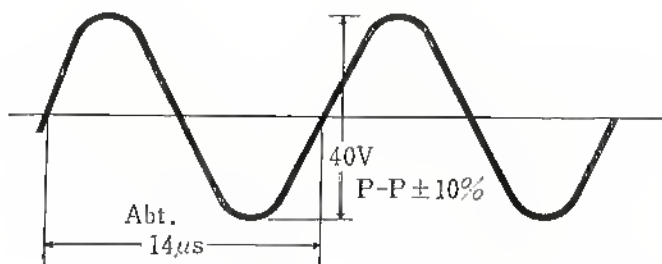

Fig. 53 Wave-form of Bias and Erasure Oscillator
3. Confirm that the output wave form on the oscilloscope appears as sine wave without much distortion as shown in Fig. 53.